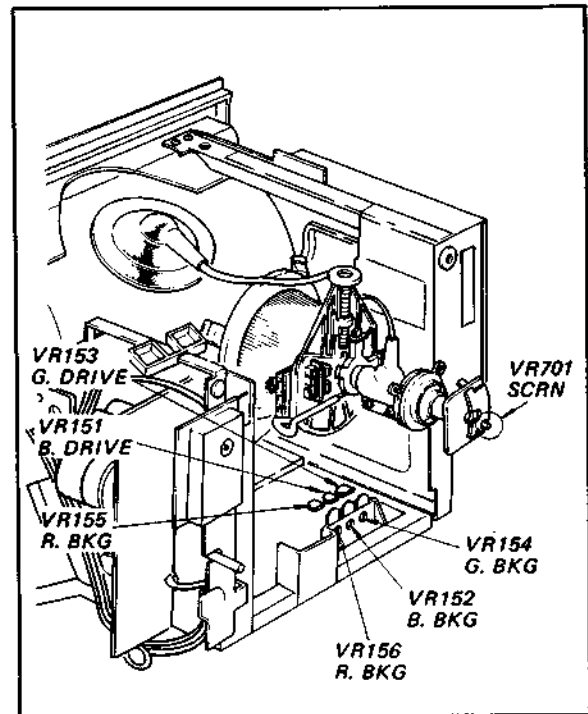

Fig. 3-15. Adjustment parts location
3. Referring to Fig. 3-15, set the adjustment controls as follows:
Procedure: (Refer to Fig. 3-15.)